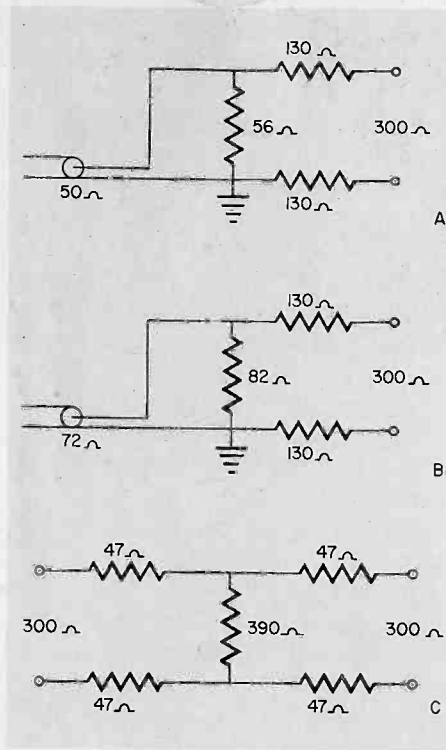

Figure 5—Simple pads to match between the sweep generator and the input to the tuner. (See text)
4. A terminal matching pad is needed between the sweep generator and the input to the tuner. This is necessary to match the sweep generator impedance and the receiver input impedance. Figure 5 shows three such pads; A connects from an unbalanced 50 ohm coaxial input to a 300 ohm balanced while B shows a 72 ohm unbalanced matching a 300 ohm balanced. C of Figure 5 shows a pad from a 300 ohm signal generator isolating it from the 300 ohm receiver input.